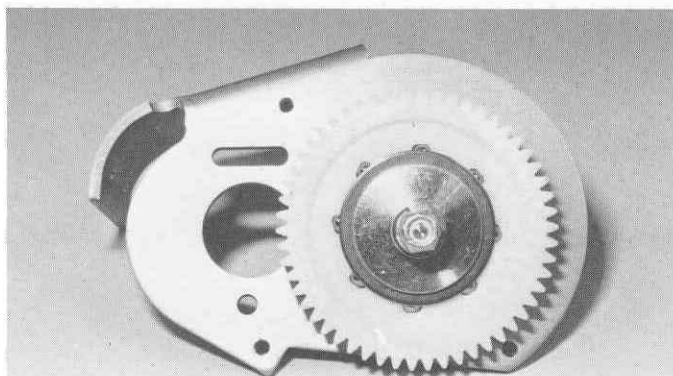

Fig. 81
□ **Fig. 81** Slip the dif into the motor mount, as shown.